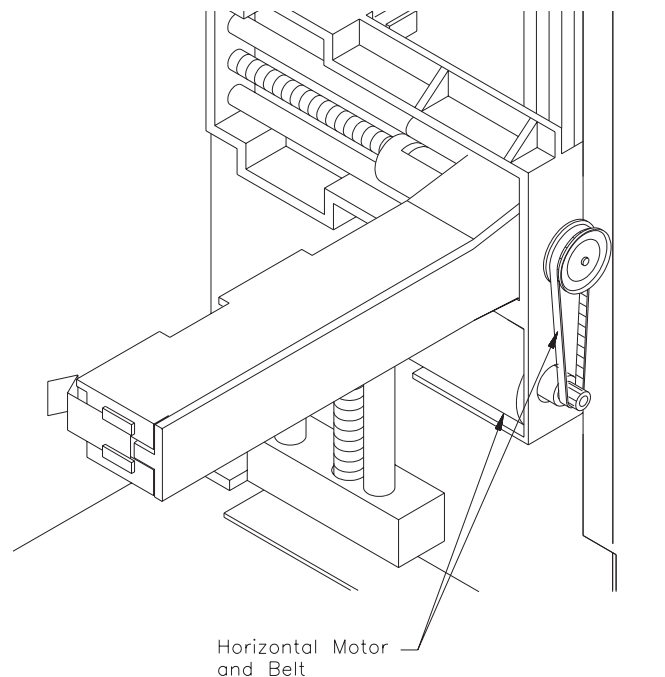

Figure 12-1 Horizontal belt
4. Locate the horizontal belt on the CHM, as shown in Figure 12-1. Insert your index finger inside the loop of the belt. Gently roll the belt to the left and gradually slip the belt off the tip of the motor pulley (the smaller pulley attached to the motor).